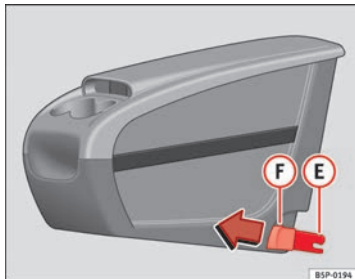
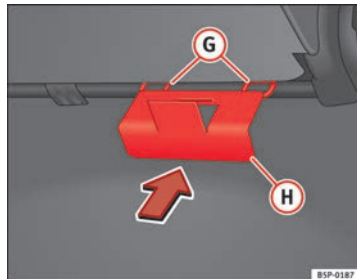

Fig. 110 Mobile storage compartment. Installation
Fig. 111 Mobile storage compartment mounting plate
- Fit the mobile storage compartment mounting plate **(H)** ⇒ Fig. 111 from the inside of the vehicle, through the rear part of the seat. It should be fitted between the backrest and the seat, in the central seat area.
- Set both mounting pieces together **(E)** ⇒ Fig. 110, with both mounting rings **(G)** ⇒ Fig. 111 and press hard until both the clips completely connect with the rings.
- Pull each of the buttons ⇒ Fig. 110 **(F)** on the clips (red buttons) forwards, until they snap out of place.